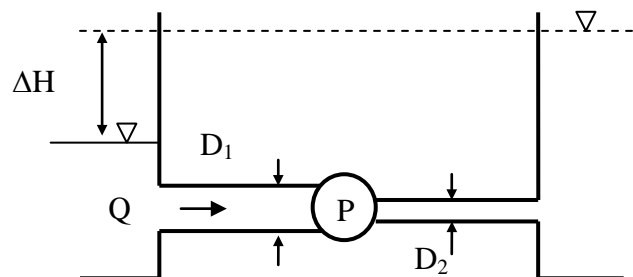

Figure 3
- [c] For the system shown in Figure 3, $\Delta H = 30.5$ m, $D_1 = 0.61$ m, $D_2 = 0.305$ m and $Q = 0.85$ m³/s. Determine the power developed by the pump in horse power. Neglect all losses except discharge losses.